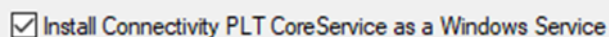

Figure 17. CoreService Windows Service installation
- **CoreService System** – this should be installed in the system that is physically connected to the Connectivity PLT hardware. The service can be installed by enabling the Renesas Connectivity PLT Core Service windows service checkbox in the installation wizard Figure 17. Take note of the IP address of the system, it is needed for the configuration of the Connectivity PLT application.